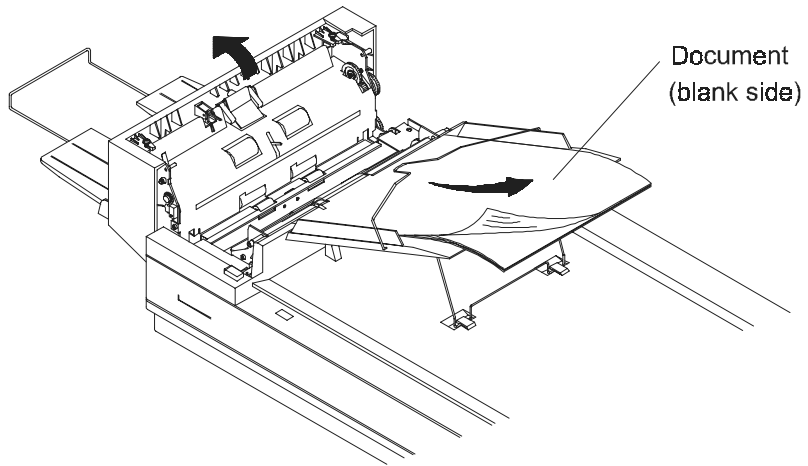

Figure 4.2 ADF Paper Jam - Removing the Paper
- iii). Pull the paper out of the ADF unit carefully, as shown in Figure 4.2, arrow A.